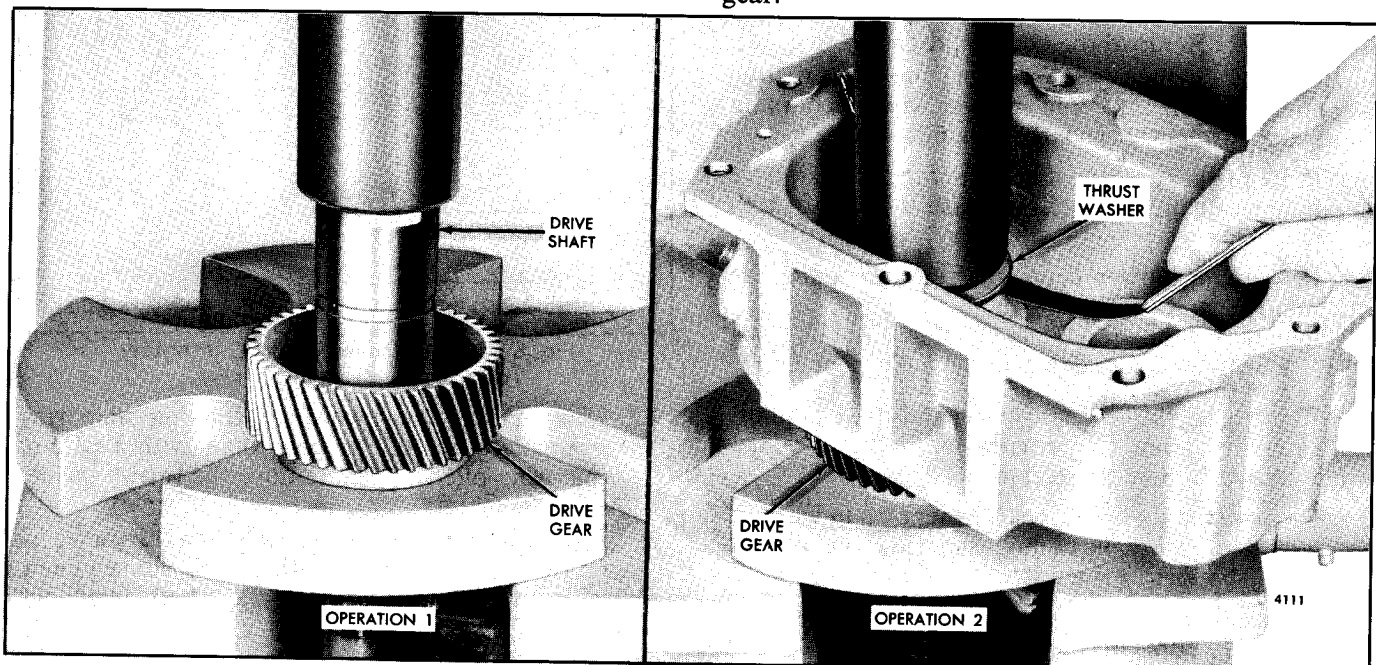

Fig. 8 - Installing Blower Drive Gear Shaft in Drive Gear
2. Place the blower drive gear and shaft on the bed of an arbor press (Fig. 8, Operation 1). Then, press the shaft straight into the drive gear approximately one half inch.
5. Support the blower drive gear, shaft and support on the bed of an arbor press (Fig. 8, Operation 2). Then, press the drive gear shaft into the drive gear until the clearance between the thrust washer and the support is .004" to .012" (Fig. 6).